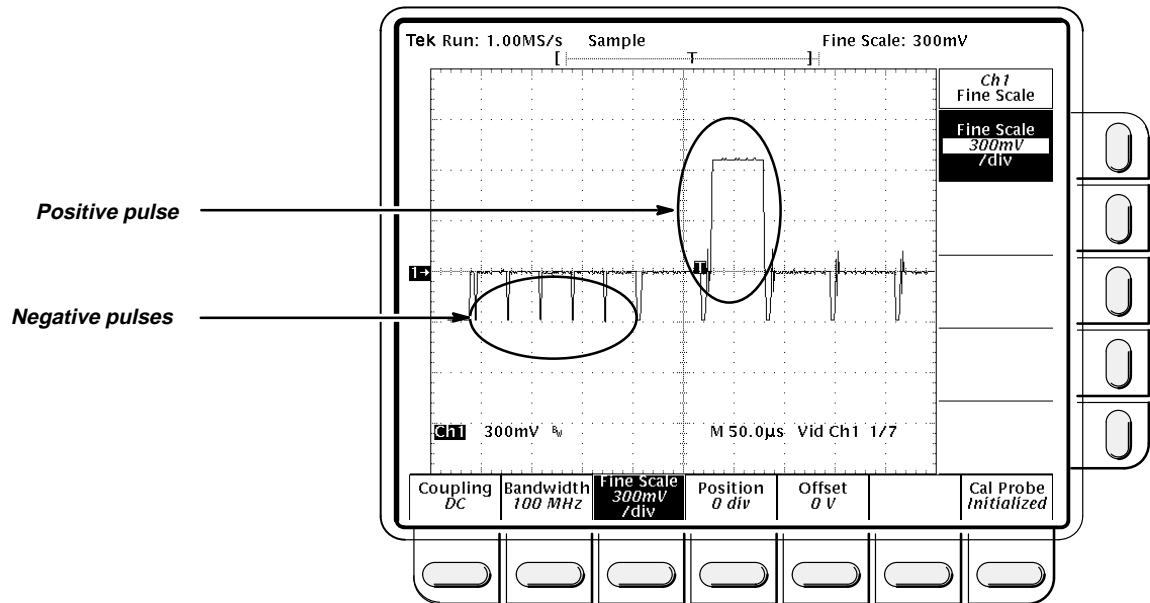

Figure 1-30: Triggered Signal Range Test – 300 mV
- m. CONFIRM that the **TRIG'D** LED stays on and that the waveform on screen is stable. ie; does not move horizontally or vertically. Also, CONFIRM that the waveform on the screen has one positive pulse and a number of negative pulses (See Figure 1-30).